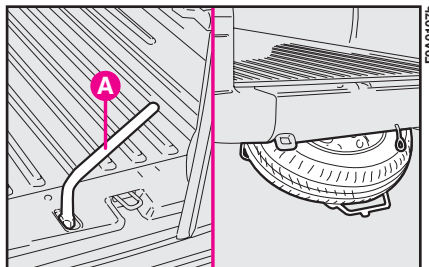
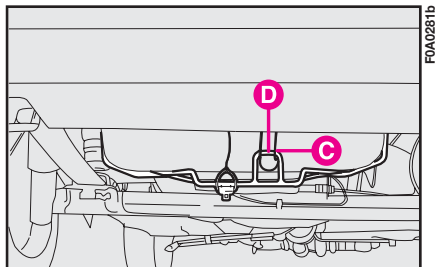
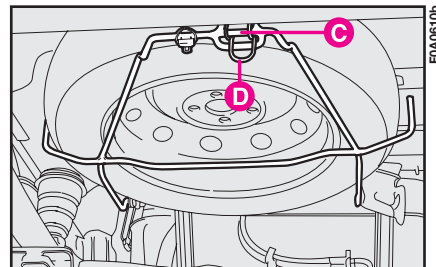

fig. 6
fig. 15
fig. 16
6) Loosen the bolt fastening the spare wheel with the wrench **A-fig. 6**.
**2)** Hook the top of support bracket **C**-fig. 15 to the anchoring ring **D** and tighten the support locking bolt fig. 6.
– hook the lower side of the support bracket **C-fig. 16** to the anchoring spring **D** and tighten the support bolt **fig. 6**.